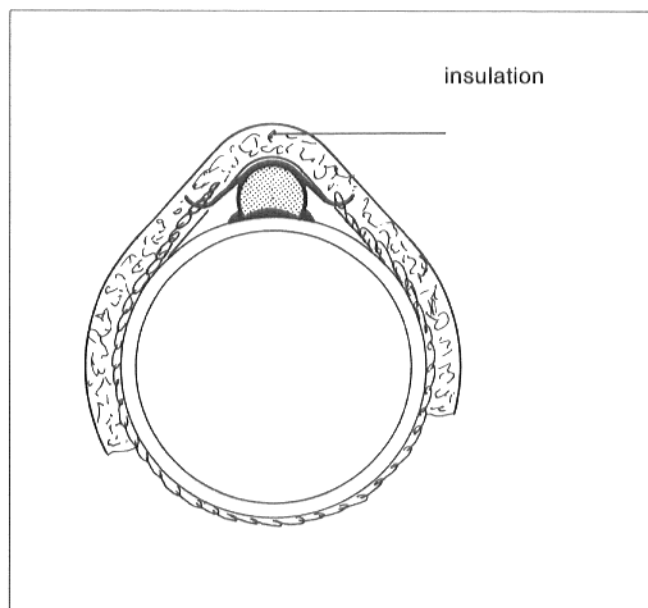

Fig. 3
5. The temperature contact sensor has to be insulated against cooling with insulation material at least 20 cm long. (Fig. 3).